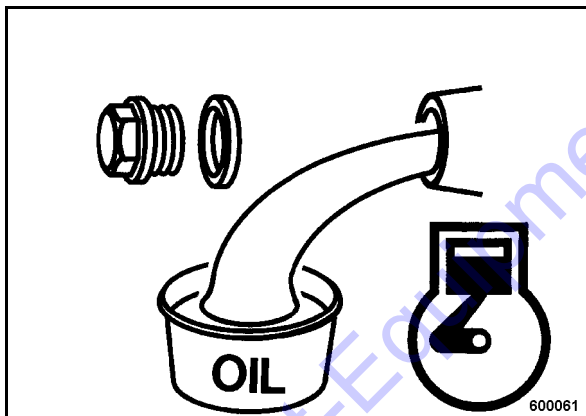

Fig. 35
- Unscrew the oil drain plug (Fig. 35), let the old oil run out and catch it.